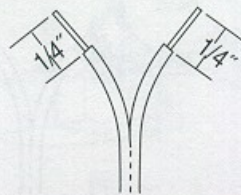

Figure 4-2
- **REMOVE 1/4"** of insulation from the Receiver end of the wire. (Figure 4-2)